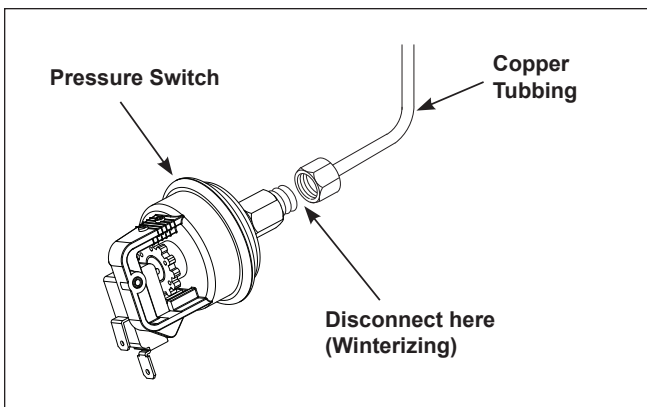

Figure 22. Pressure Switch Copper Tubing
8. Disconnect the pressure switch from the copper tubing. See Figure 22.
1. Attach the copper tubing to the pressure switch (see Figure 22).
3. Turn on the filter pump and circulate water through the heater for five (5) minutes. Check for leaks while circulating.